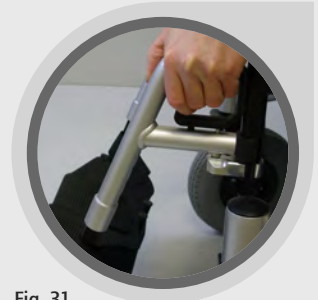

Fig. 31
- To pivot the legrest to the exterior, open the locking device. (Fig. 31)